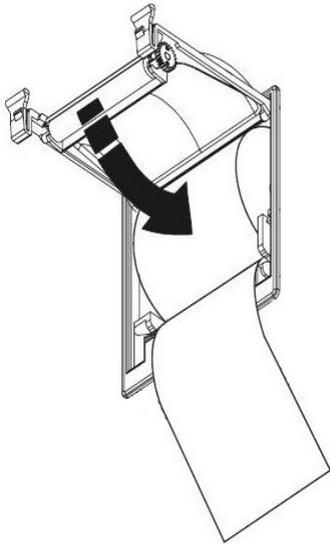

Figure 7-5 – Changing the paper roll - Step 3
3. Tear off the paper as shown in Fig. 7-5 and re-close the cover